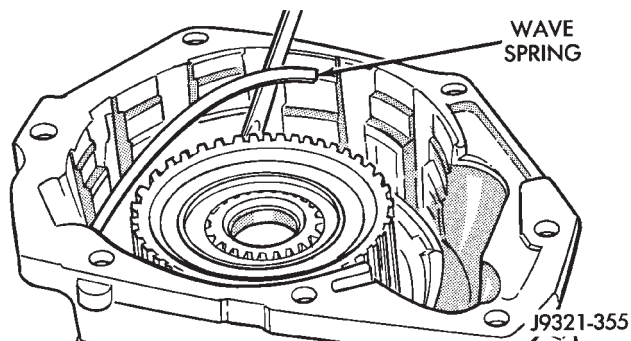

Fig. 11 Overdrive Clutch Wave Spring Removal/Installation
(50) Install accumulator piston and inner and outer springs (Fig. 11).
(51) Verify that park/neutral position switch has **not** been installed in case. Valve body can not be installed if switch is in position.
(52) Verify that valve body solenoid harness is secured in 3-4 accumulator housing cover plate.
(53) Install valve body as follows:
(1) Remove overdrive clutch wave spring (Fig. 11).